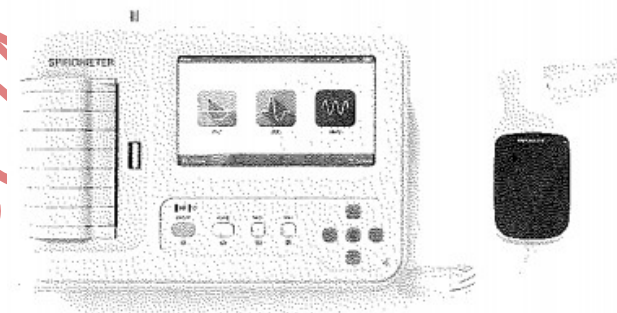

Figure 5-2
2. Attach the *mouthpiece* to the turbine *port* of the spirometer (PFT probe), as shown in Figure 5-2.